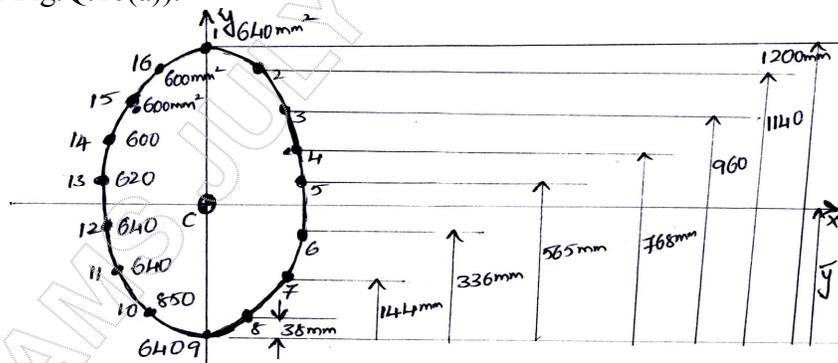

Fig.Q.10(a)
- 10 a. The fuselage section is subjected to a bending moment of 100kNm applied in the vertical plane of symmetry. If the section is completely idealized into a combination of direct stress carrying booms and shear stress only carrying panels. Determine the direct stress in each boom. (Refer Fig.Q.10(a)) (10 Marks)
- b. The wing section shown in following Fig.Q.10(b) has been idealized such that booms carry all the direct stresses. If the wing section is subjected to a bending moment of 300kN-m applied in a vertical plane, calculate the direct stress in the booms.